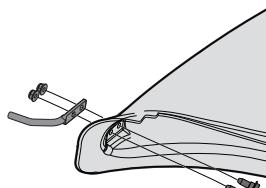

Figure 13
1. From the inside of the boot, put the two hex head screws (738-1225) from hardware pack 689-00636, through the holes at the bottom at the front of the boot. See Figure 13.
2. Put the mounting rod (712-06043) from hardware pack 689-00636 in place over the hex head screws. Make sure the tip of the rod is facing out from the boot. See Figure 13.
3. Begin threading the flange lock nuts (712-04064) from hardware pack 689-00636 onto the hex head screws. See Figure 13.